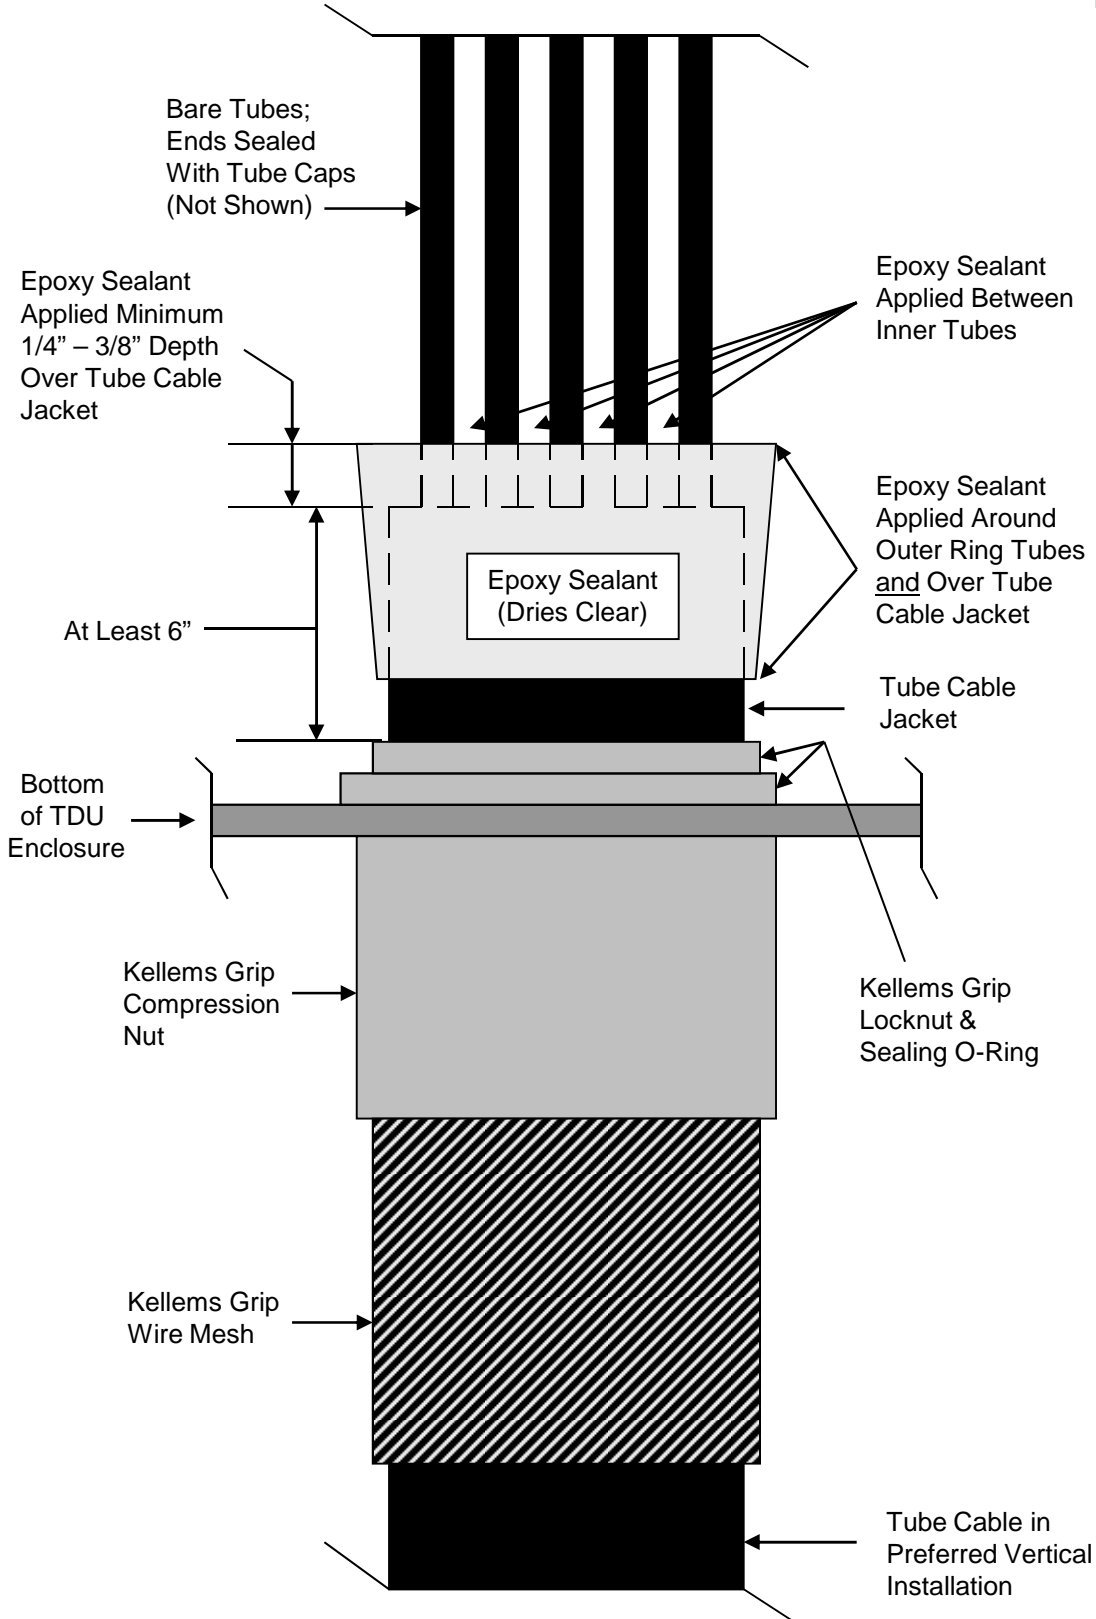

Figure 4
5.2 See Fig. 4 for a typical equipment layout where a Liquid-Tight Kellems Grip secures a bottom-entry tube cable to a Class I boundary TDU and epoxy sealant is applied between the tubes and between the tubes and cable jacket.